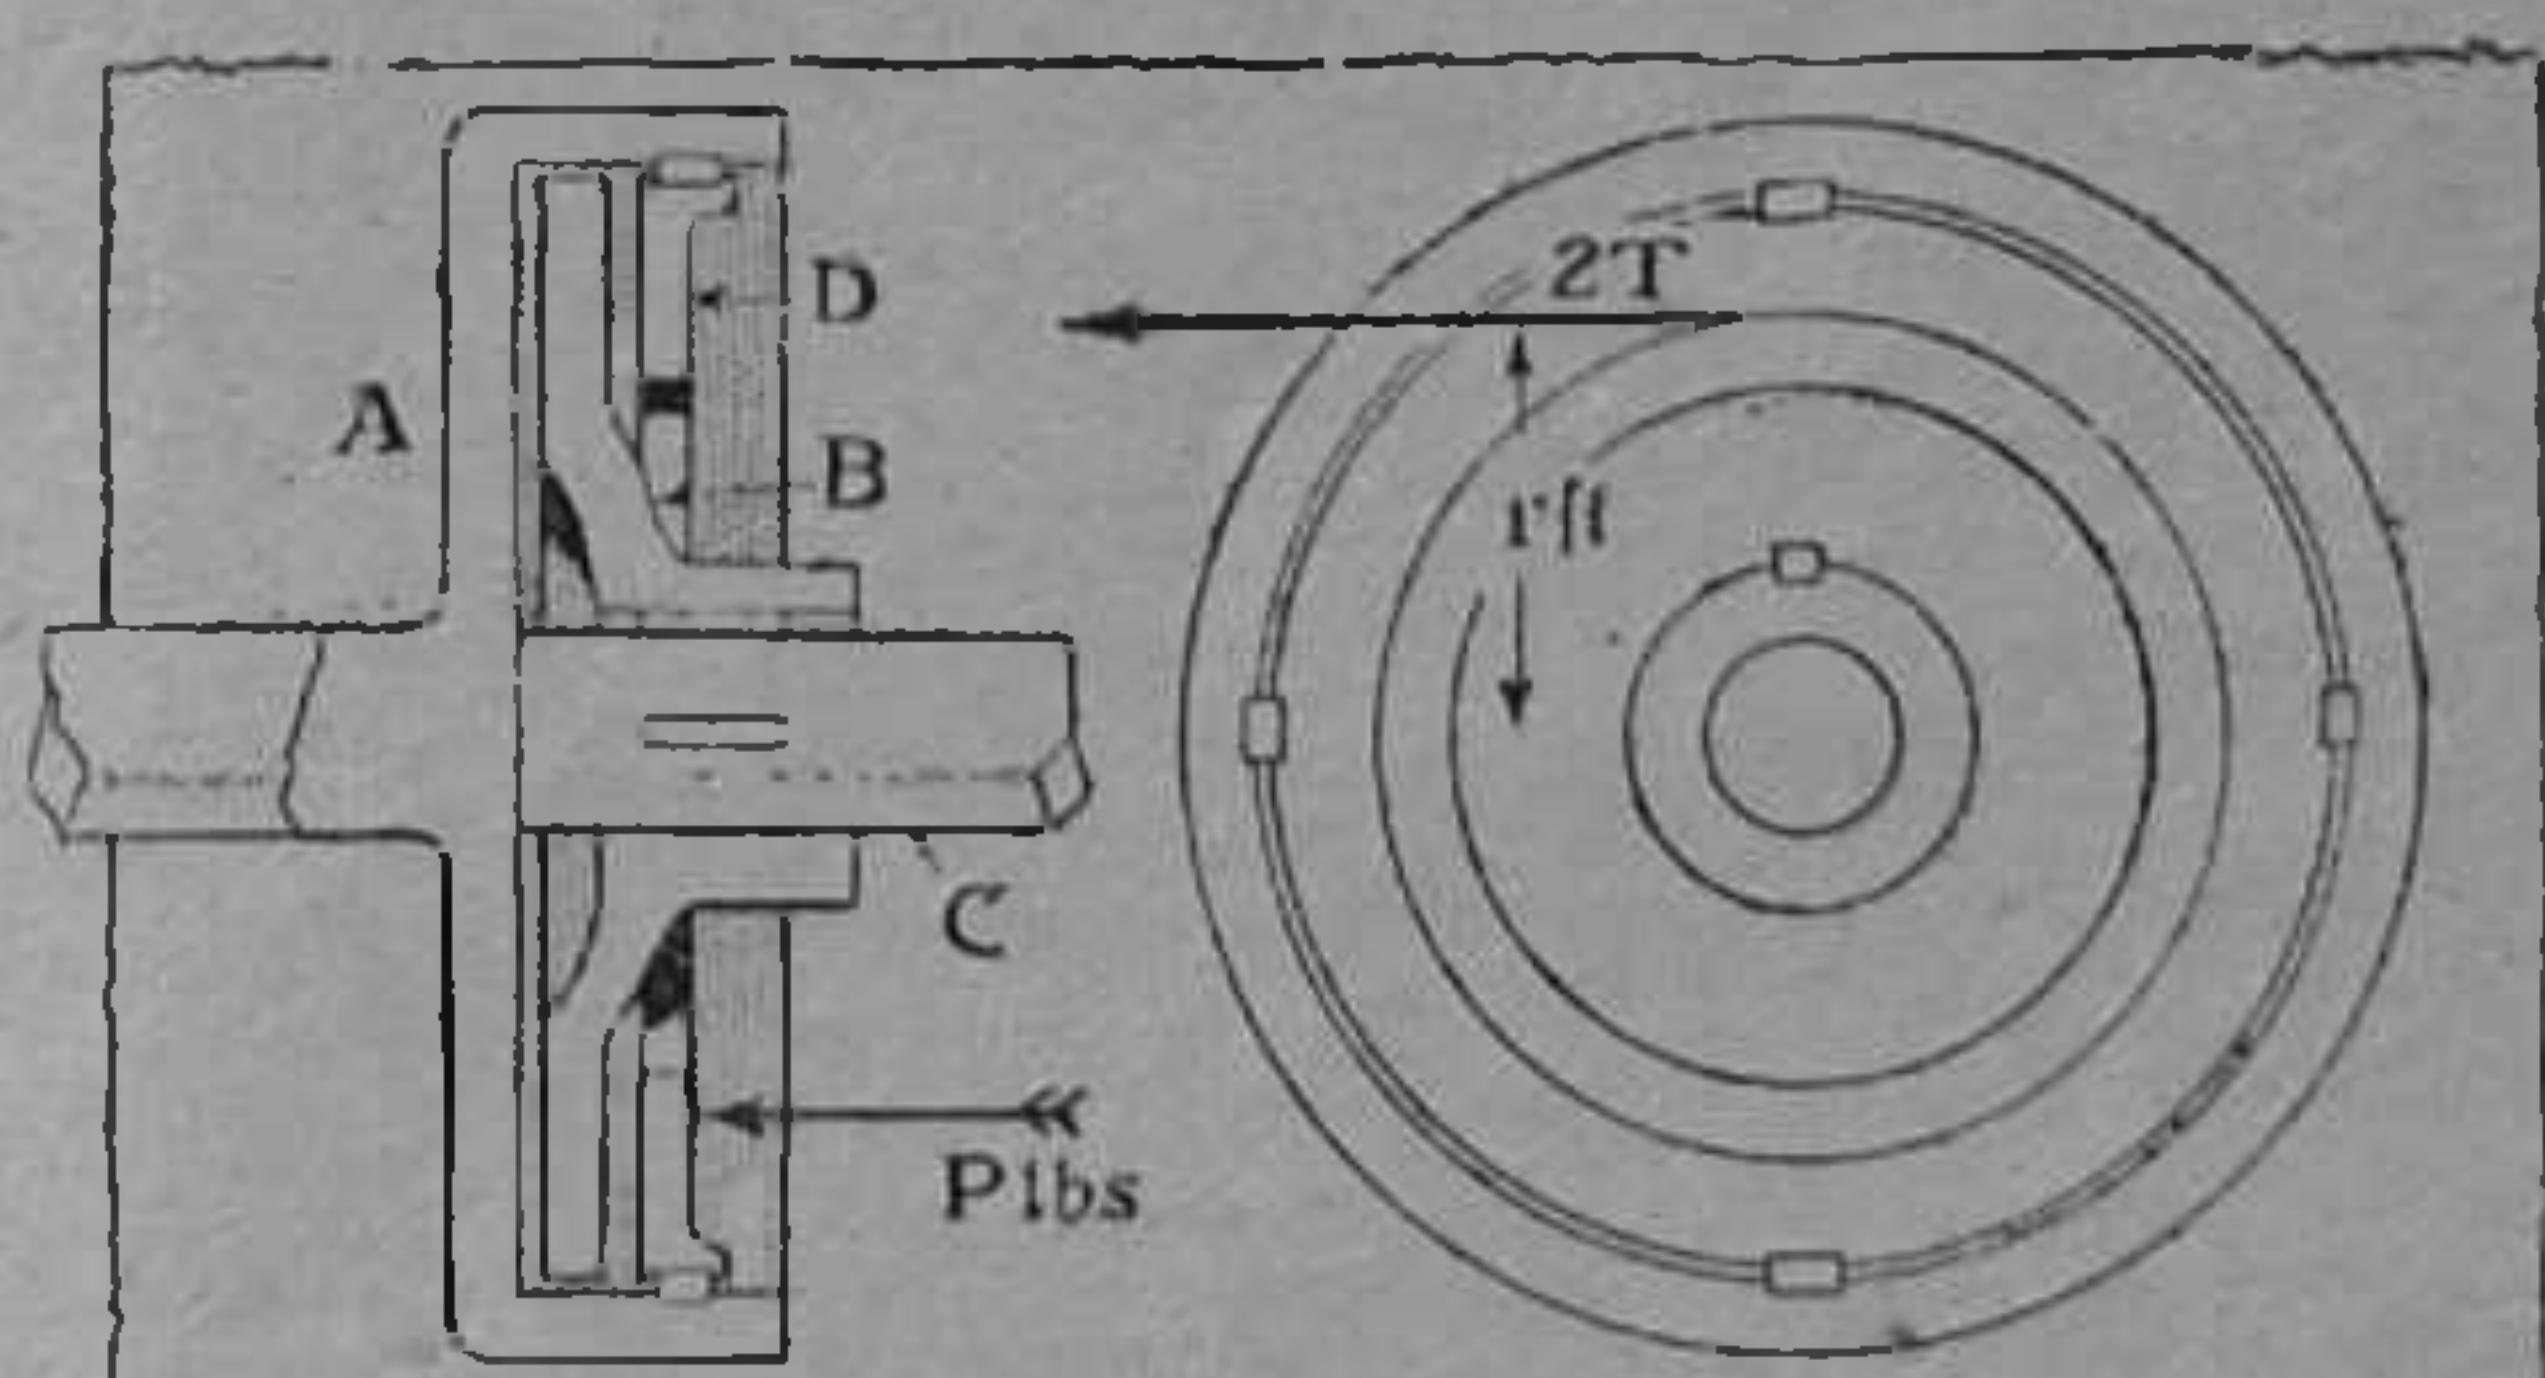

Fig. 2.—Showing increased frictional surface.
sible limit, and the clutch cannot very well be run at more than engine speed, some alteration in design is required which will increase  $T$  without increasing  $P$ . Fig. 2 shows the simple method of doing this, which results in the standard type of dry plate clutch fitted to many motorcycles. An extra friction surface (D) is provided, which rotates with A, but can slide axially